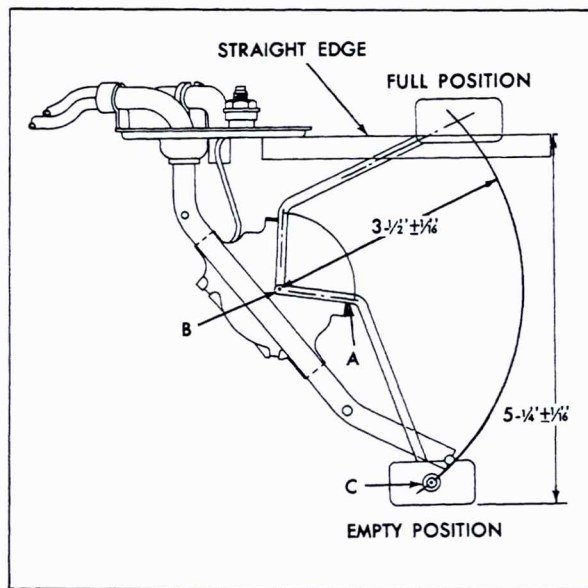
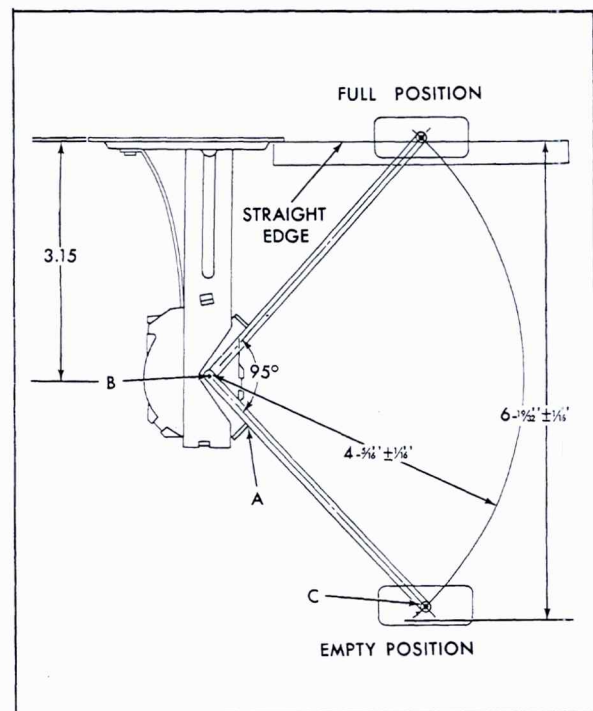

Fig. 12-29 Checking for Bent Float Arm (Exc. 693)
Fig. 12-30 Checking for Bent Float Arm (693)
1. Establish a fixed reference point when checking for a bent float arm by placing a straight edge as illustrated on surface of cover plate, extending it outward. See Fig. 12-29 for all but 693 style or Fig. 12-30 for 693 style.
"Empty" position against stop "A", distance from bottom of float (with float horizontal) to straight edge should be 5-1/4 inches  $\pm$  1/16 inch, Fig. 12-29. Bend float arm as needed. Check distance from point "B" to "C" which should be 3-1/2 inches  $\pm$  1/16 inch, Fig. 12-29. Bend float arm as needed and recheck distance from bottom of float to straight edge.
3. On 693 style, with float arm in "Empty" position against stop "A", distance from bottom of float to straight edge should be 6-19/32 inches  $\pm$  1/16 inch, Fig. 12-30. Bend float arm as needed. Check distance from point "B" to "C" which should be 4-5/16 inches  $\pm$  1/16 inch, Fig. 12-30. Bend float arm as needed and recheck distance from bottom of float to straight edge.